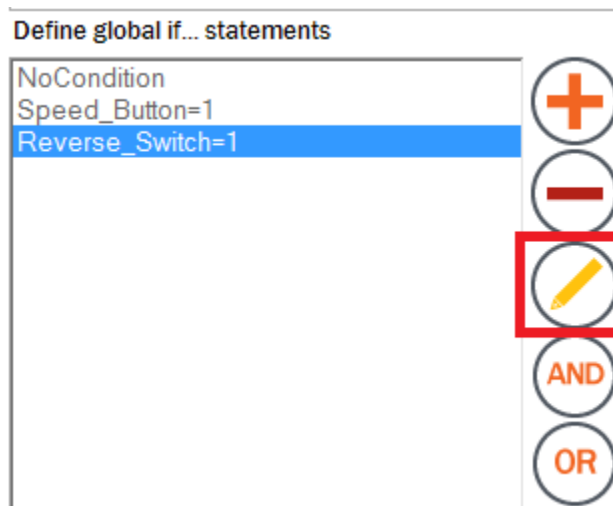

Figure 178. Edit global condition
- Conditions are changed by selecting the condition and clicking the Edit button (Figure 178).